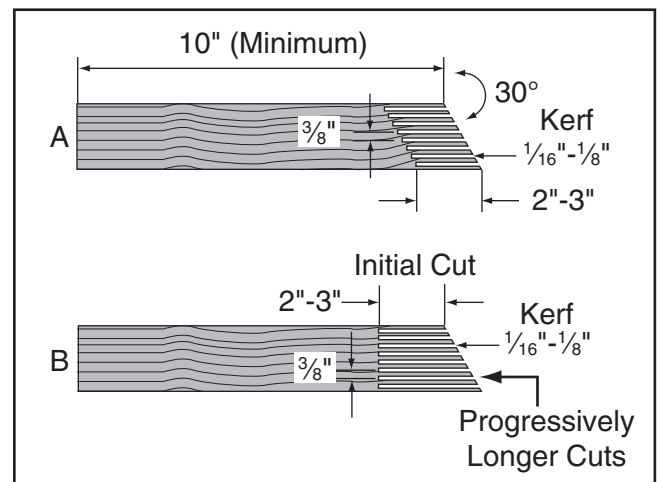

Figure 105. Patterns for featherboards (top view shown).
3. Make a series of end cuts with the grain $\frac{3}{8}$ "– $\frac{1}{4}$ " apart and 2"–3" long, as shown in **Figure 105 (A)**. Alternatively, start cuts at 2"–3" deep, then make them progressively deeper, as shown in **Figure 105 (B)**. Cuts made across the grain will result in weak fingers that will easily break.